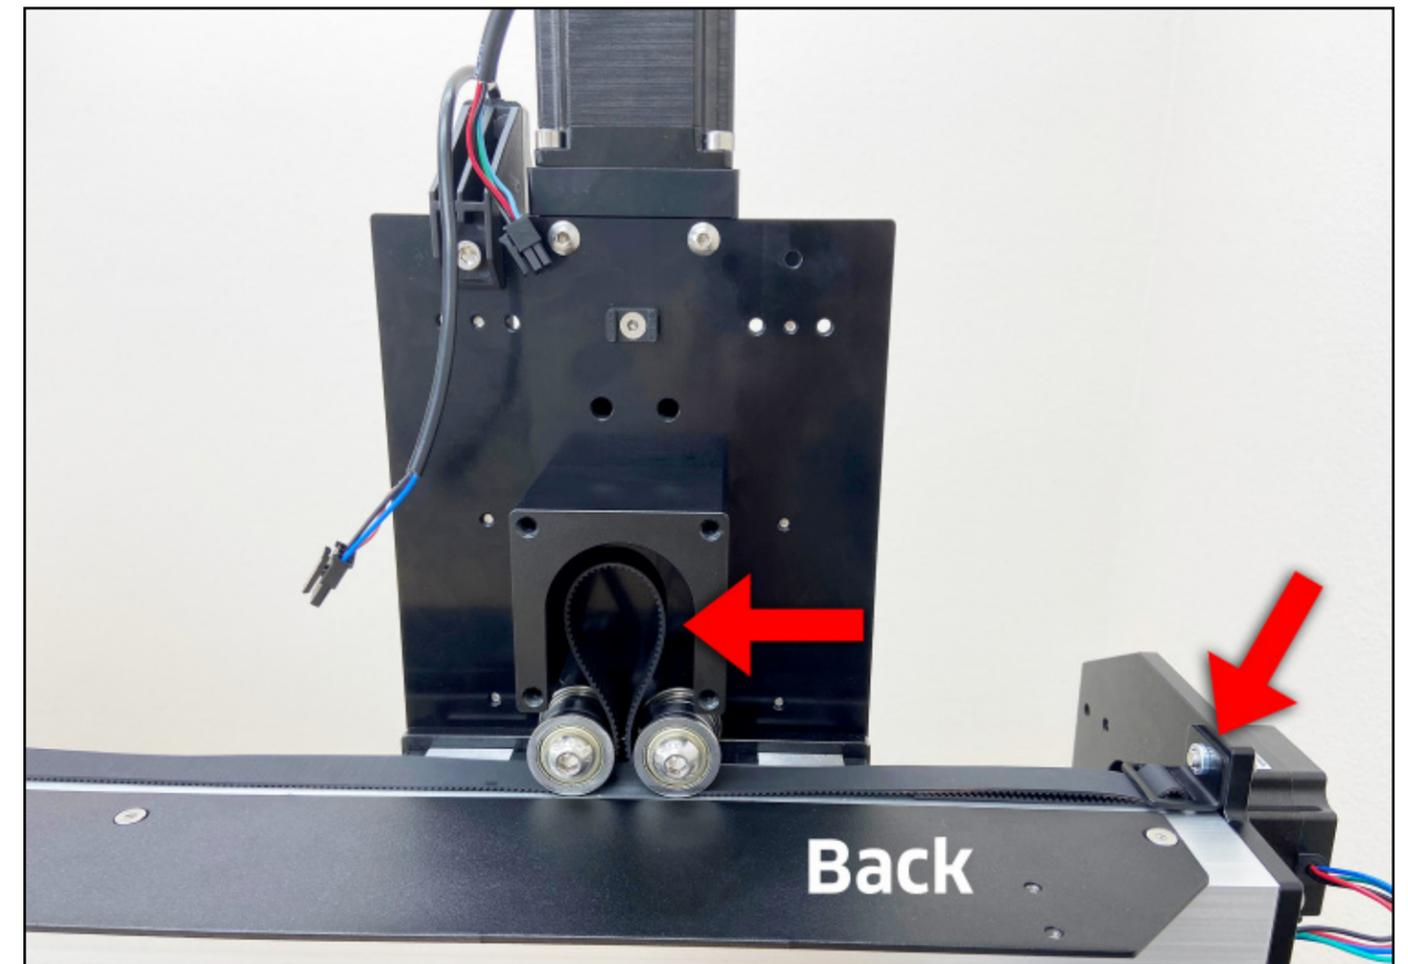

Figure 5-4
1. Attach one end of the belt to one end of the X-Axis gantry, threading about 3 inches of belt through the belt clip. (Refer back to Steps 4.3 and 4.4.) **See Fig. 5-4.**
3. Use a small hex key to pull a large loop of belt up between the two idlers and into the motor housing. **See Fig. 5-4.**